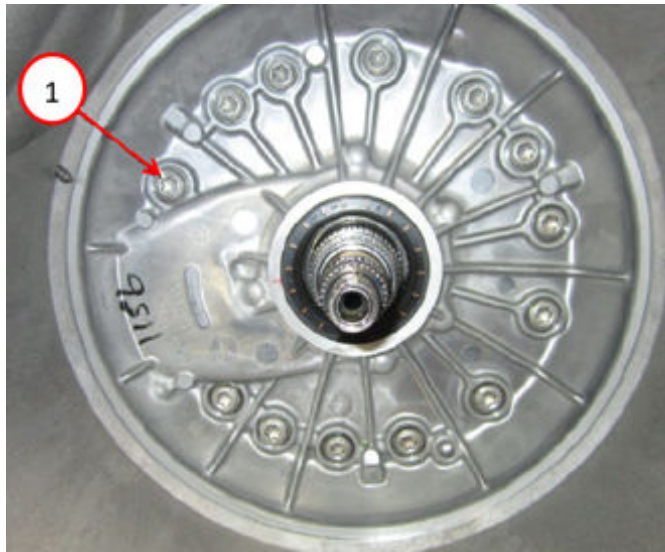

Fig. 14
23. Remove and discard the oil pump housing bolts Fig. 14.